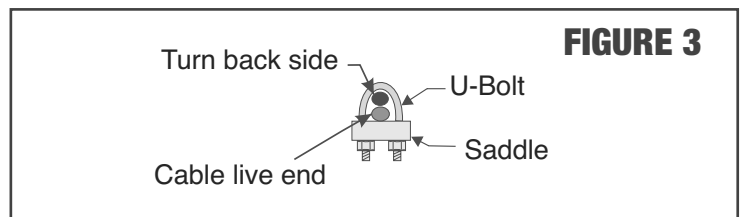

FIGURE 3
4. Using a 7/16” wrench, fasten cable clamps as typical cable clamp installation (**Figure 3**). Cable should be relatively snug.
3. Using a 7/16" wrench, fasten the cable clamps 2 per end and as per typical cable clamp installation (**Figure 3**). Cable should be relatively snug.
3. Using a 7/16" wrench, install and fasten cable clamps 2 per end as per **Figure 3**. Cable should be relatively snug.